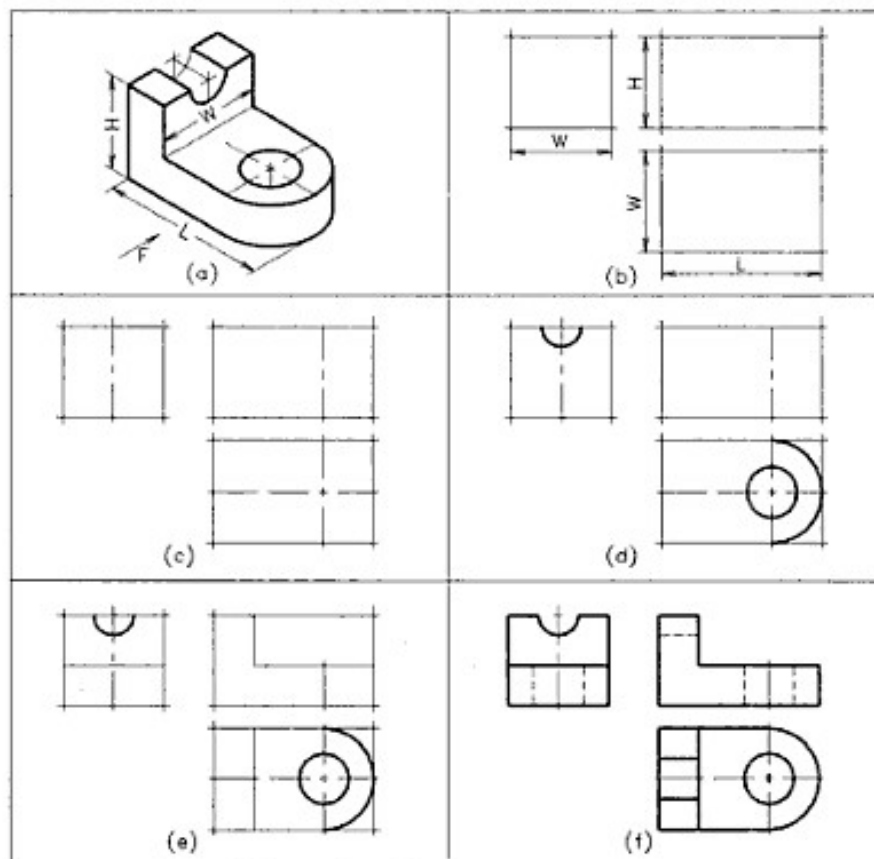

Figure 19.13 Drawing procedure for orthographic views.
3. Draw the border line and outline of the title block. Leave sufficient space in between the views and the border line of the sheet. Care must be taken to provide necessary space for printing dimensions, notes, etc. [see Figure 19.13(b)]. As far as possible, provide equal space between the views for a better appearance.
4. Mark centre lines at appropriate places [see Figure 19.13(c)].
8. Draw the hidden lines [see Figure 19.13(f)].